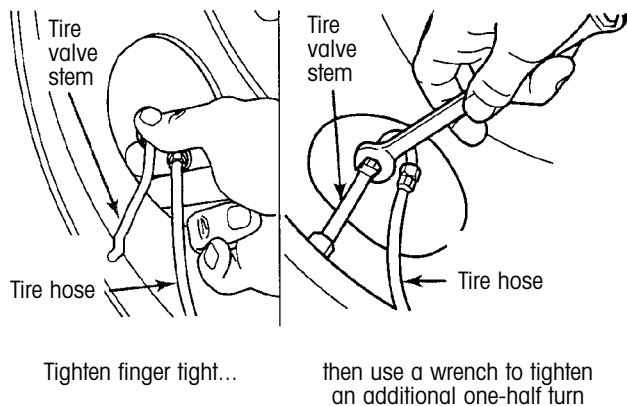

Figure 6. Attaching the tire hose to the tire valve stem
4. Attach the tire hose(s) to the tire valve stem(s) and tighten finger tight (figure 6).
5. Using a  $\frac{7}{16}$ -inch wrench, tighten the tire hose/valve stem connection an additional one-half turn (figure 6). **Do not overtighten this connection.** The hose and tee connections are tight enough when moving the hose back and forth does not cause the connection to move.